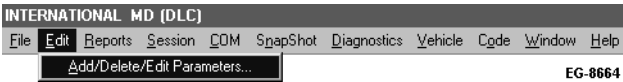

Figure 213
4. To add parameters to this window, select **Edit** and then **Add/Delete/Edit Parameters** on the menu bar, (See Figure 213, page 398).